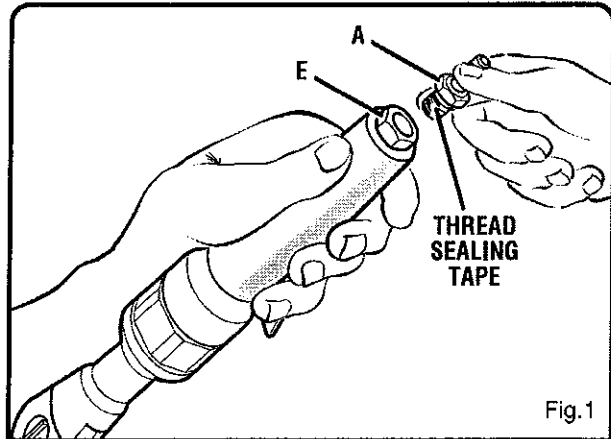

Fig.1
- 1) Attach 1/4 in. NPT male connector fitting (A) to the air inlet (E) of the tool (Fig. 1).
After each use, always lubricate air inlet (E) making sure that the lubricant penetrates inside the accessory (Fig. 1). Connect the air tool to the air supply. Run the air tool for few seconds.